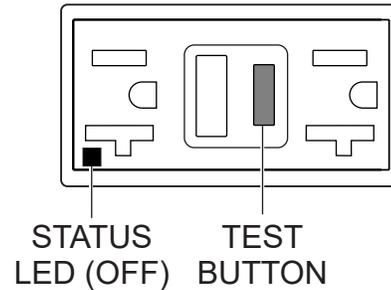

Figure 51. GFCI Receptacle (OFF)
4. Press the **TEST** button (Figure 51) on the GFCI receptacle and verify that the status LED turns **OFF**.